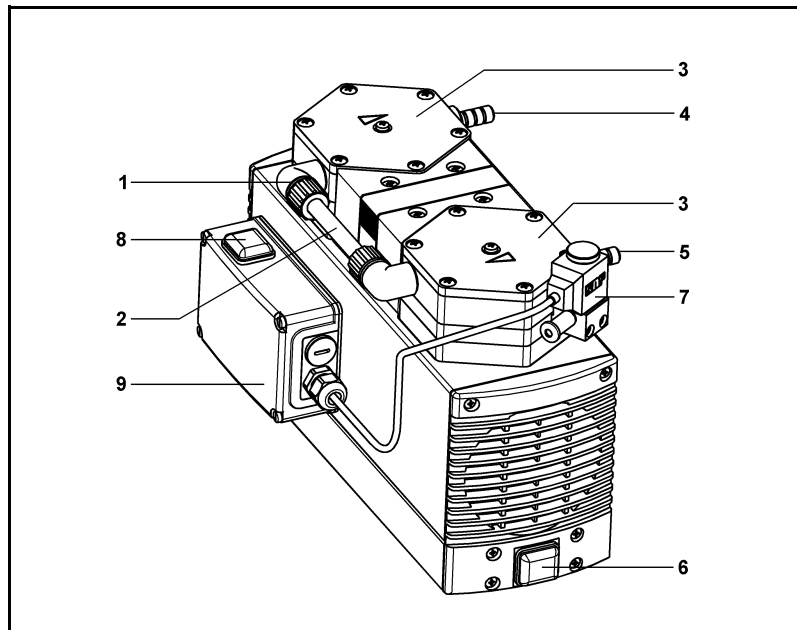
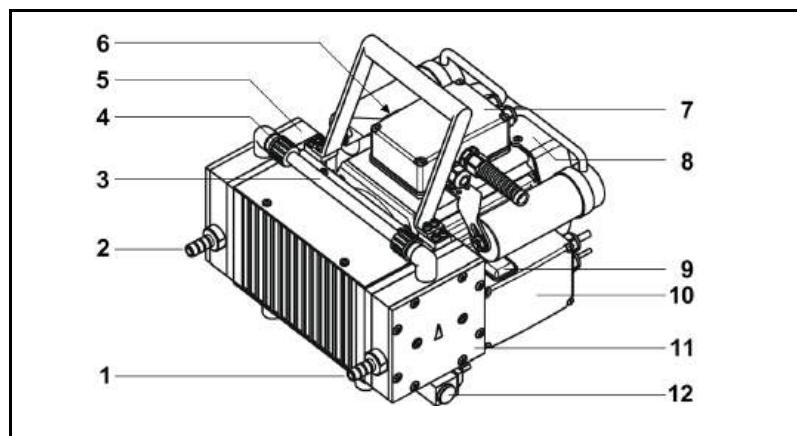

Fig. 2: Diaphragm pump (shown: pump N 840.3 FT.40.18, symbolic)
Fig. 3: Diaphragm pump N 860.3 FT.40.18
The venting valve (fig. 2/7 or fig. 3/12) at suction side pump head is opened by the control system, permitting air to enter the evacuated pump head. As a result of the increase in pressure in the pump head, the inlet valve of the first pump head closes by itself, thereby sealing off the connection to the source being evacuated.
- Switch on pump with mains switch (see fig. 2 or 3).
- If cyclic drying of the pump heads is required in the current evacuation process, switch the drying system on at the mains switch of the control box (see fig. 2 or 3).
- If the drying system is switched on: Switch the drying system off at the main switch of the control box (see fig. 2 or fig. 3).